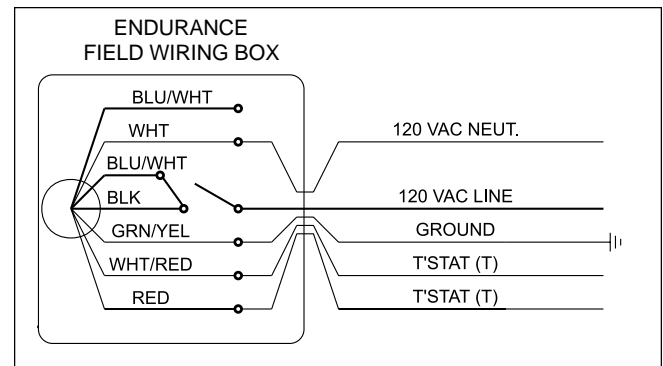

Figure 20. Single Zone With Room Thermostat (internal pump provides system flow).
1. Main power: Connect a fused 120 volt supply (15 amp) to the main power switch (see Figure 20) (hot leg is connected directly to switch). Neutral leg to white wire. Ground wire